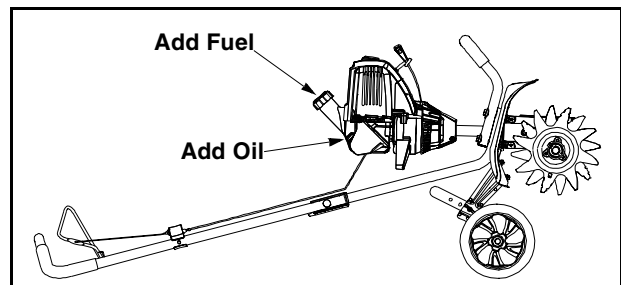

Figure 8
- **When checking oil, the unit must be laid back in the horizontal position on a flat surface with the upper handle touching the ground.** See Figure 8.
See Figure 8.